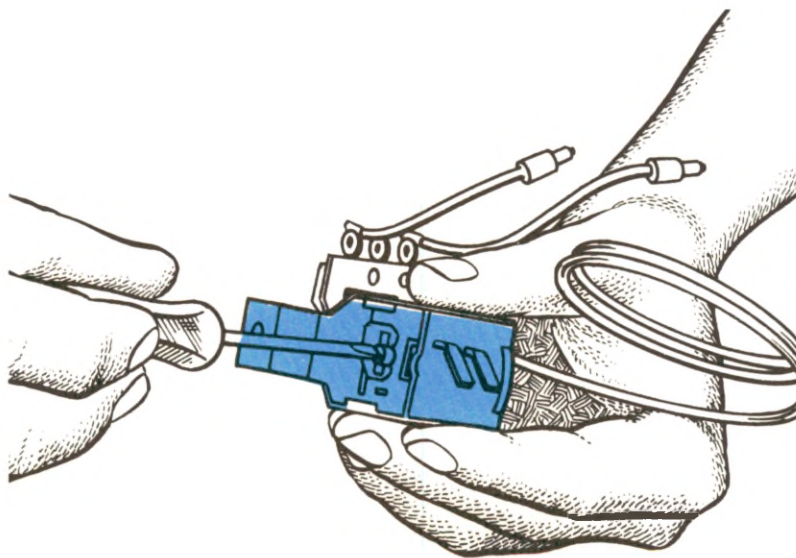

Fig. 3-23 — Thermostatic Switch Adjustment
5. If the low side pressure was less than the prescribed pressure at the end of each cooling cycle, turn the adjusting screw (Fig. 3-23) a partial turn clockwise.